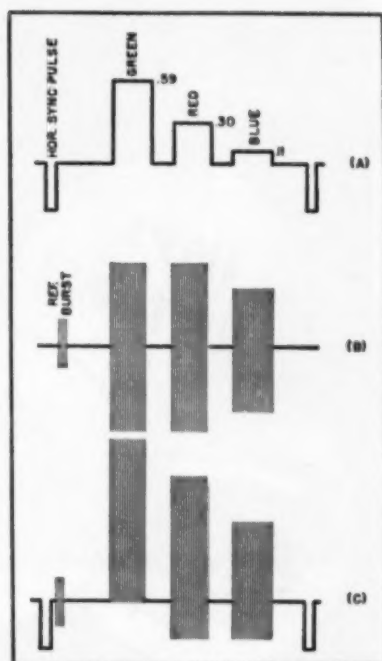

Fig. 6. Video signal for three vertical colored bars. See text for details.
Fig. 6 indicates the various signals that would be produced if the original subject matter were three vertical bars of saturated colors green, red, and blue. Fig. 6A is simply E_I and represents equation (1). Fig. 6B is the combined output of the two modulators with the phase varying from bar to bar. Fig. 6C is the composite video output and is the arithmetic sum of (A) and (B). Note that we have introduced a new parameter called the "Reference Burst." In order that the phase of the 3.58 mc. information contained in each bar has a proper reference, eight cycles of the subcarrier are transmitted along with the signal. This burst of subcarrier is placed just behind the horizontal sync pulse and has a reference phase as shown in Fig. 1.